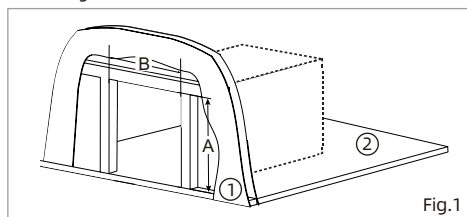

Fig.1
1. Create a cutout with the following dimensions A and B of Fig.1.
1. Locate entry point for the plumbing to service the rear of the appliance. Ensure entry point is not in the footprint space of the appliance. (Fig.1)
2. Locate entry point for the wiring to service the rear of the appliance. Ensure entry point is not in the footprint space of the appliance (Fig.1) Make sure any edges are protected to prevent wire abrasion from occurring.